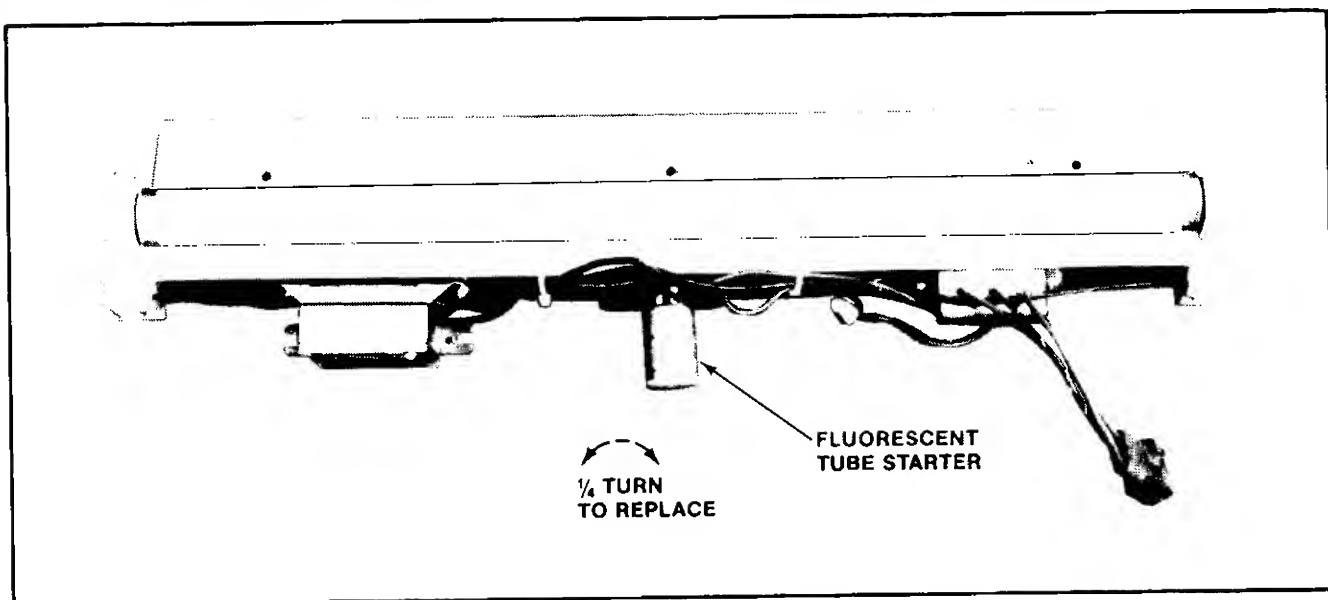

Figure 3-7 Replacing Fluorescent Tube Starter
- ☐ Replacing the fluorescent light tube starter. See Figure 3-7.